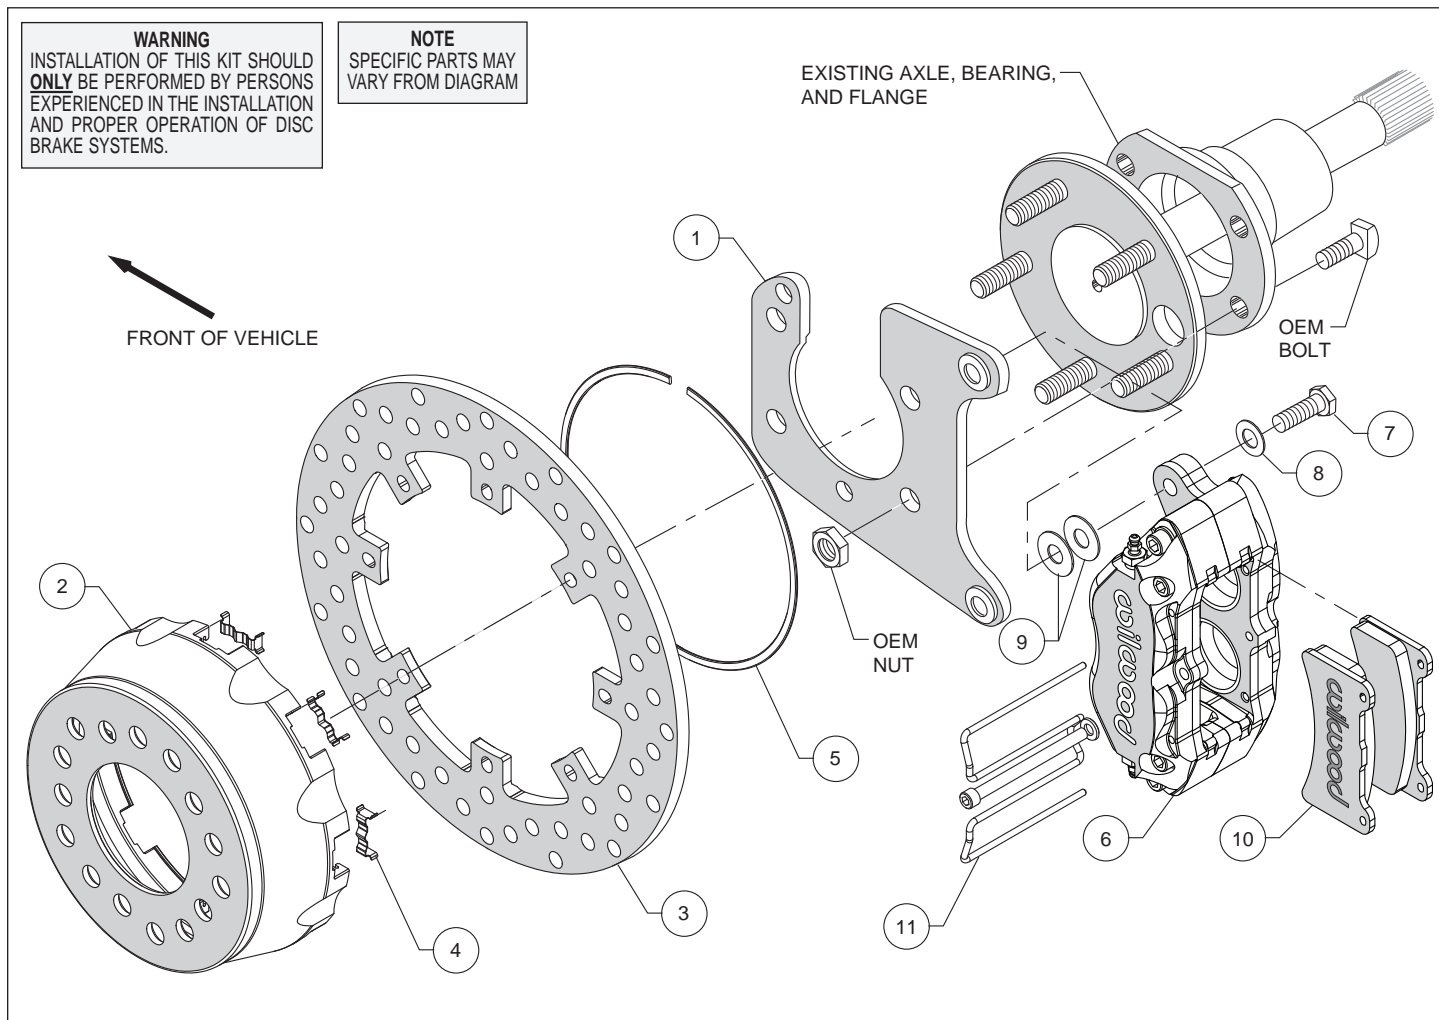
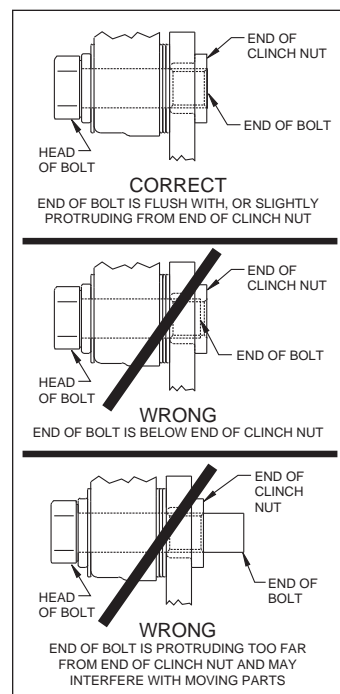

Figure 1. Typical Installation Configuration
Figure 5. Clinch Nut Engagement Diagram
Assembly Instructions (numbers in parenthesis refer to the parts list and Figure 1 on the preceding pages): **CAUTION:** All mounting bolts must fully engage clinch nuts. Be sure to check that all bolts are either flush or protruding through flanged side of clinch nut after shimming, Figure 5.
- Install the caliper mounting bracket (1), with the slot for the axle pointing upward, to the housing flange using the OEM bolts and nuts, as shown in Figure 1 and Photo 1. Ensure that the heads of the clinch nuts are facing outboard, Photo 1. Apply red *Loctite*® 271 to the OEM bolt threads and torque to OEM specifications.
- Insert the dynamic mount wear clips (4) into the slots in the hat (2) making sure the tabs snap in place, Photo 2. Orient the rotor (3) as shown in Figure 1 and Photo 3, with the flush mount tab side facing the hat. Attach the rotor to the hat using snap ring (5) by pushing down on the rotor and installing the ring into the groove in the hat, as shown in Photo 4. Ensure that the ring is fully engaged in the groove.
- Align the correct hole pattern in the hat (2) with the axle stud pattern and slide the hat/rotor assembly onto the axle hub. **NOTE:** The hat must fit flush against the axle flange or excessive rotor run out may result. Install three lug nuts (finger tight) to keep the hat/rotor in place while continuing with the installation. **NOTE:** Some OEM and aftermarket axles come with stud sizes larger than 0.50" diameter. Verify stud size, and if necessary, have a qualified machine shop drill the hats to the correct size.
- NOTE:** Please reference the caution statement at the beginning of the assembly instructions. Mount caliper (6) onto the mounting bracket (1) using bolts (7) and washers (8), as shown in Figure 1. Initially place two .035" thick shims (9) on each bolt between the caliper and the bracket, Photo 5. Temporarily tighten the mounting bolts and view the rotor (3) through the top opening of the caliper. The rotor should be centered in the caliper, Photo 6. If not, adjust the caliper by adding or subtracting shims between the bracket and the caliper. Always use the same amount of shims on each of the two mounting bolts. **NOTE:** The end of each bolt must be flush with or slightly protruding from the head of the clinch nut. If necessary, place spare shims between washer and caliper mounting ear to achieve the proper clinch nut engagement, as shown in Figure 5. Once the caliper alignment and clinch nut engagement are correct, remove the bolts one at a time, apply red *Loctite*® 271 to the threads, and torque to